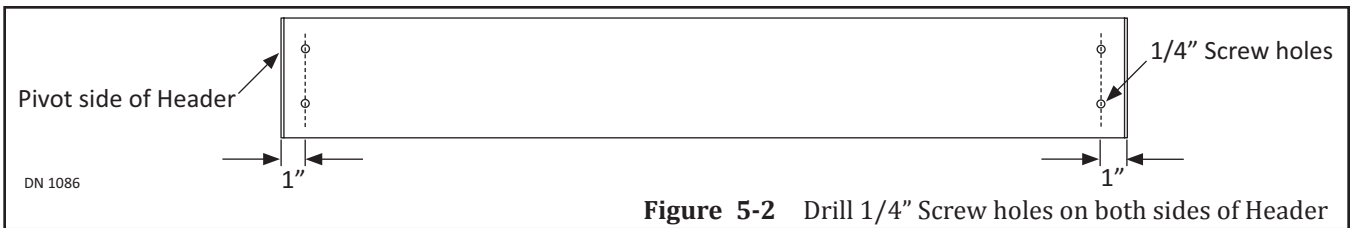

Figure 5-2 Drill 1/4" Screw holes on both sides of Header
2. Go to the back wall inside Header on the Pivot side. Please see Figure 5-2.
5. Mark (1) more Horizontal line across the Vertical line directly above the first screw hole. This is the center of the second screw hole. Drill 1/4 inch screw hole.